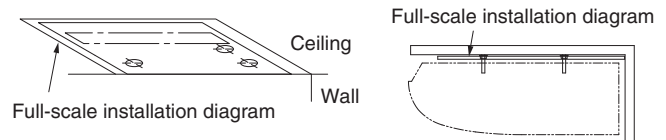

Fig. 3-9
- (1) If the full-scale installation diagram is placed on the ceiling, the locations of each suspension bolt can be chosen. Take a pencil and mark the drill holes (Fig. 3-9).